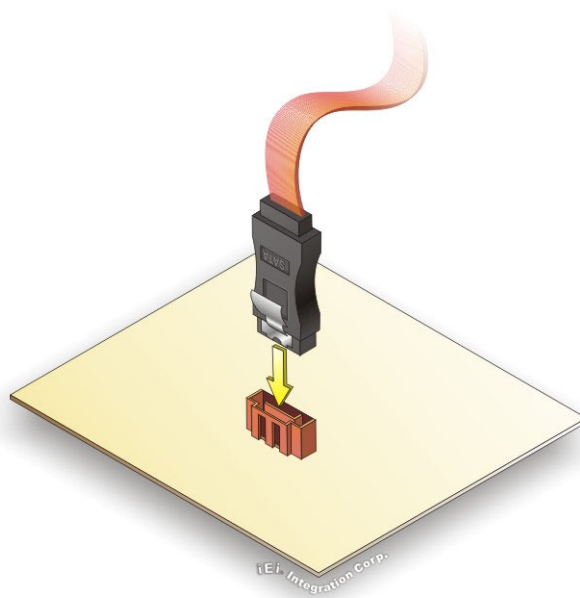

Figure 4-9: SATA Drive Cable Connection
Step 2: Insert the cable connector. Insert the cable connector into the on-board SATA drive connector until it clips into place. See **Figure 4-9**.